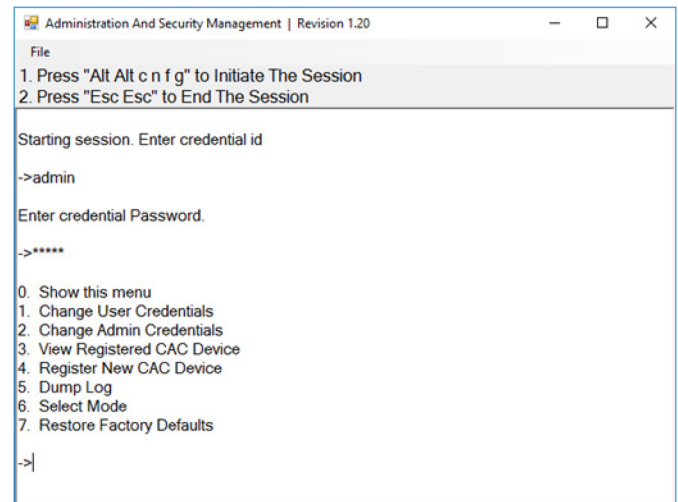

Figure 10-1
5. Request a Log Dump by selecting option 5 in the menu. (Shown in Figure 10-1)
5. Select option 7 from the menu on your screen and press enter. (Menu shown in Figure 10-1)